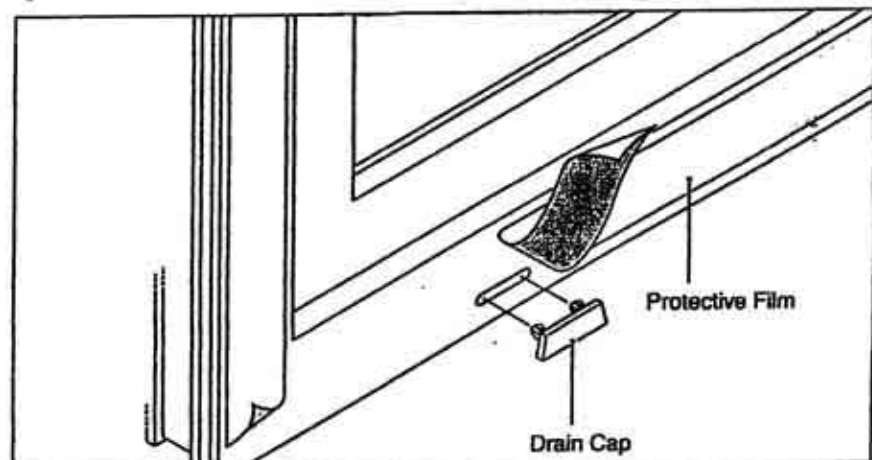

Figure 2-16. Remove the protective film and install the drain caps — exterior view
- 4.11 Remove protective film from all profiles immediately after installation. See Fig. 2-16.